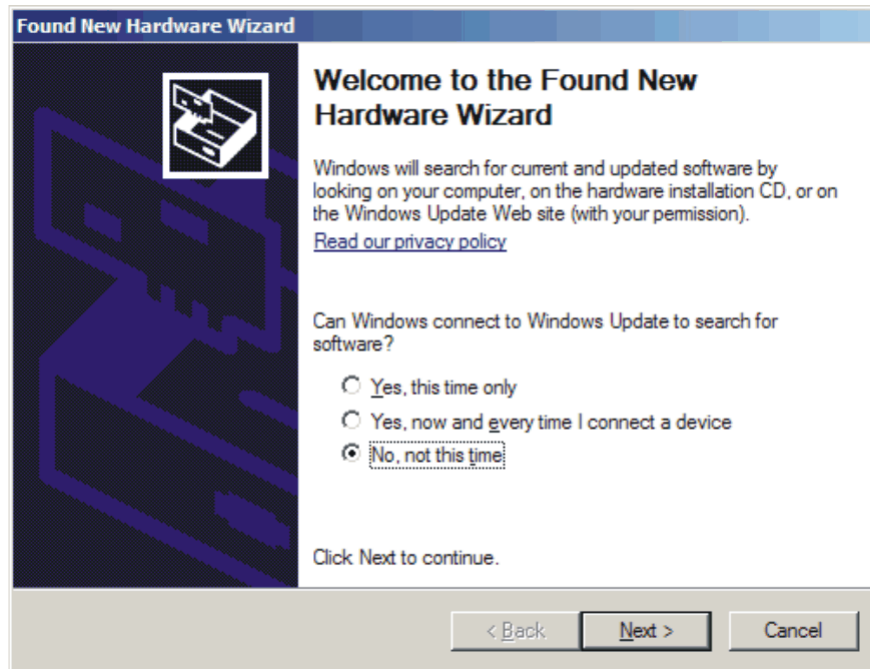
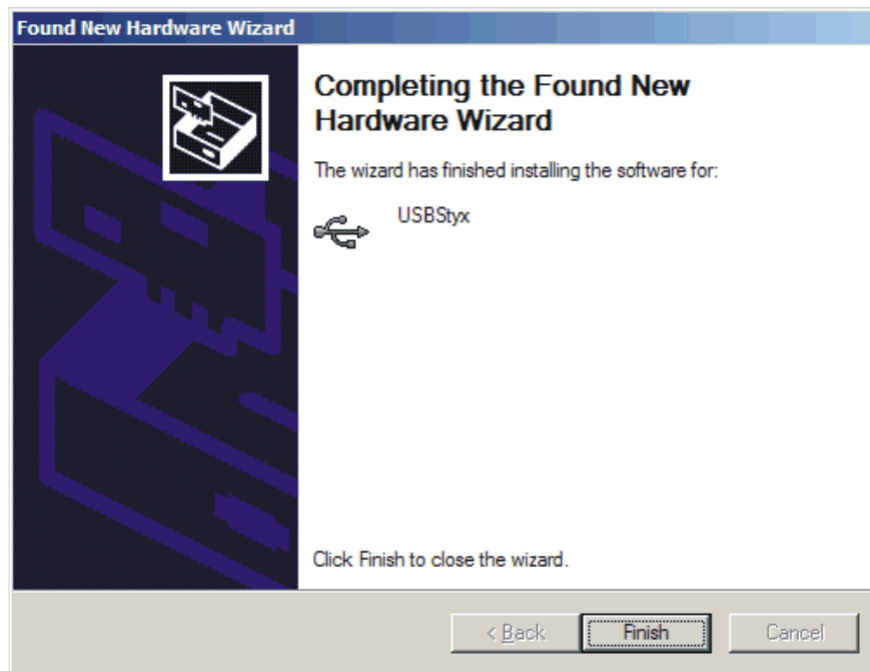

Figure 16. Install New Driver Wizard Screen 1
Figure 20. Install New Driver Wizard Screen 5
- Step 3. If you have not yet loaded the operating system drivers, Windows will display the *Windows Install New Driver Wizard* sequence (illustrated in Figure 16 through Figure 20). Accept the default settings.